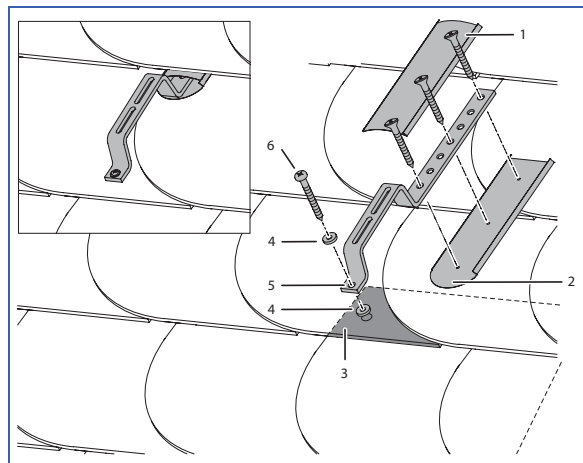

Figure 79 Special roof jack with waterproof cover (optional) for attaching a rooftop installation kit for flat-plate collectors to a slate or shingle roof
Figure 79 shows an example of an installation of the roof jacks (item 5 Figure 79) on a slate or shingle roof. Gaskets, caulking and flashing to be provided on site. The horizontal profile rails are to be fastened to the roof jacks in the same way as on a tile roof (Figure 75).
Legend (Figure 79)